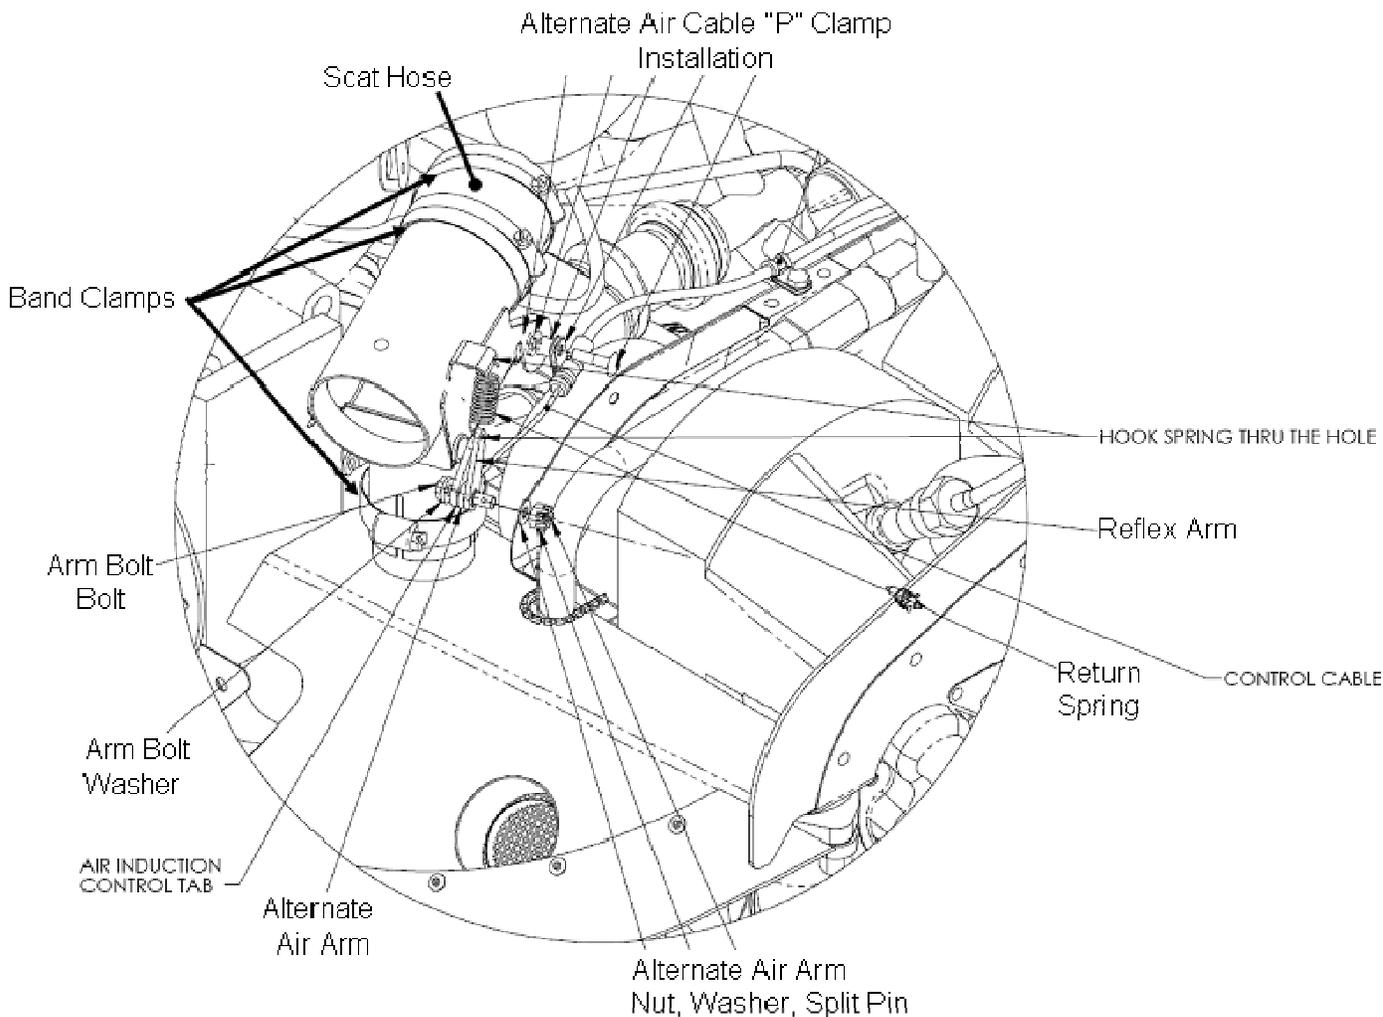

Figure 71-47 Alternate Air Control Installation
16. Disconnect alternate air cable by removal of alternate air arm bolt and nut hardware as shown in Figure 71-47.
17. Remove alternate air cable "P" clamp bolt, nut, washer and spacer hardware as shown in Figure 71-47 and position cable clear of assembly.
18. Loosen three (3) band clamps securing the alternate air box assembly to the forward baffle and to the engine induction manifold.
2. Slide scat tube over alternate air box in the location indicated in Figure 71-47.
4. Pre-position three (2) band clamps on the alternate air box assembly as shown in Figure 71-47. One to secure scat tube to the engine induction manifold and one to secure the alternate air box to the forward engine baffle.
9. Install alternate air cable "P" clamp as shown in Figure 71-47 using bolt, nut, washer, and spacer removed previously.
13. Install alternate air cable “P” clamp as shown in Figure 71-47 using bolt, nut, washer, and spacer removed previously.